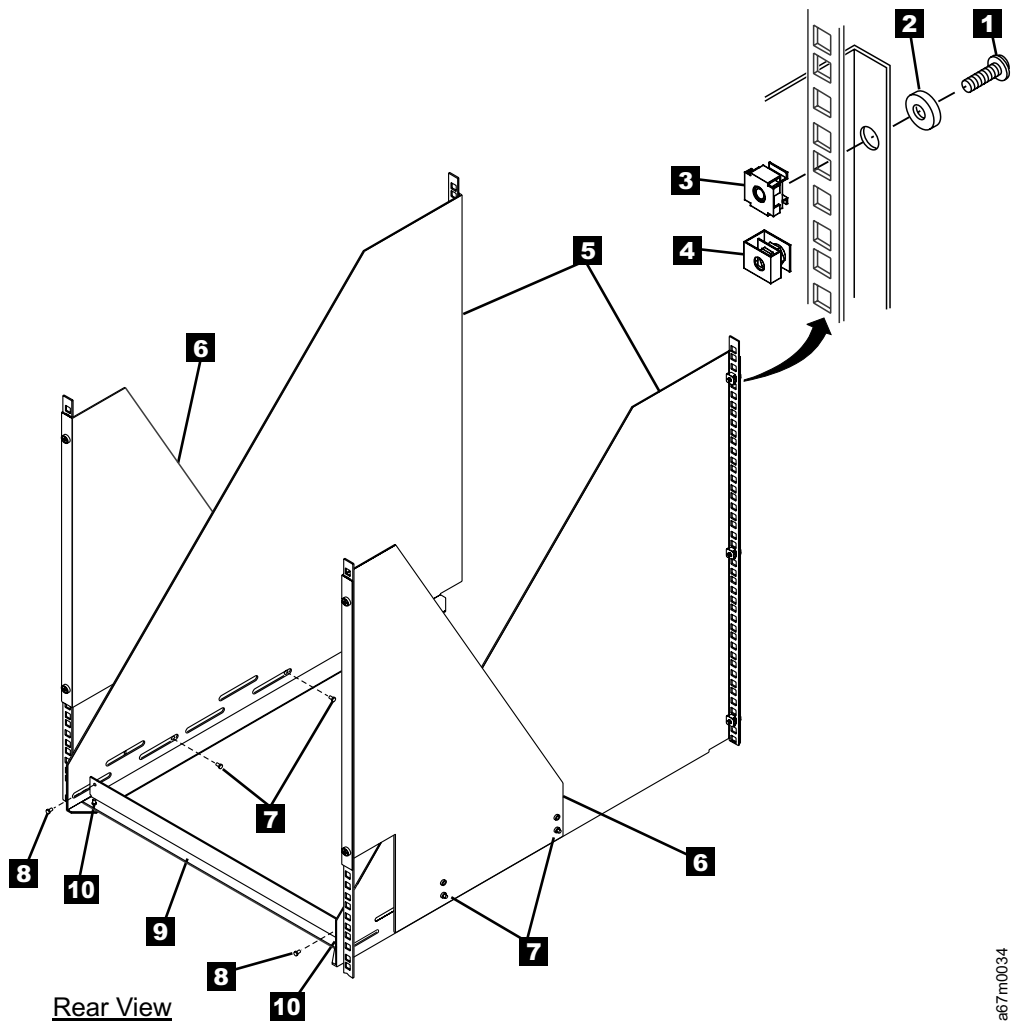

Figure 13. Components of the rackmount kit
1. Open the shipping carton and remove the components of the kit (see Figure 13 on page 30).